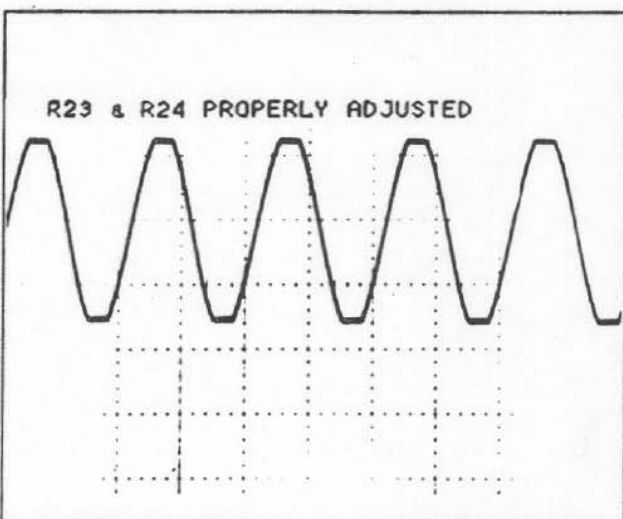

Figure 11 Properly Adjusted Pos and Neg Current Limit
- Shown in Figure 11 is an asymmetrically clipped waveform caused by an improperly adjusted positive current limit as determined by R24. Had R23 been improperly adjusted, the negative half of the waveform would be clipped as well, but its degree of clipping is a function of R23 only and is independent of R24.
9. If R23 and R24 are properly adjusted, the channel should clip symmetrically (@ 1% THD) at approximately 450 watts as shown in Figure 11.